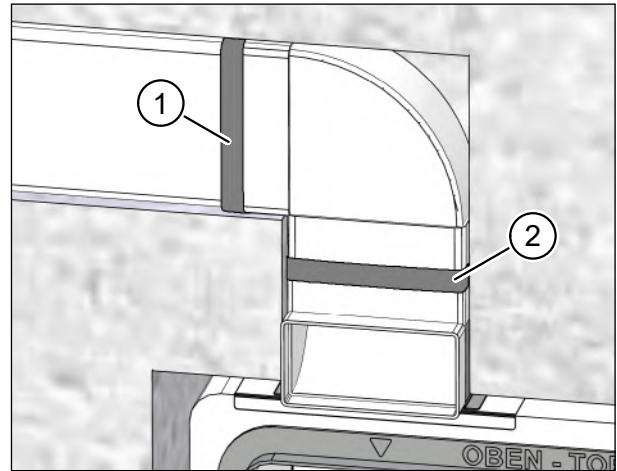

Fig. 22: Fixing a flat ductwork connection with sealing tape
- ▶ Join individual elements of the flat ductwork to create partial sections and seal every join with a layer of sealing tape 30 mm wide (item 1 in Fig. 22).
- ▶ Insert the first section of the flat ductwork into the 90° bracket on the wall box and seal the join with sealing tape (item 2 in Fig. 22).